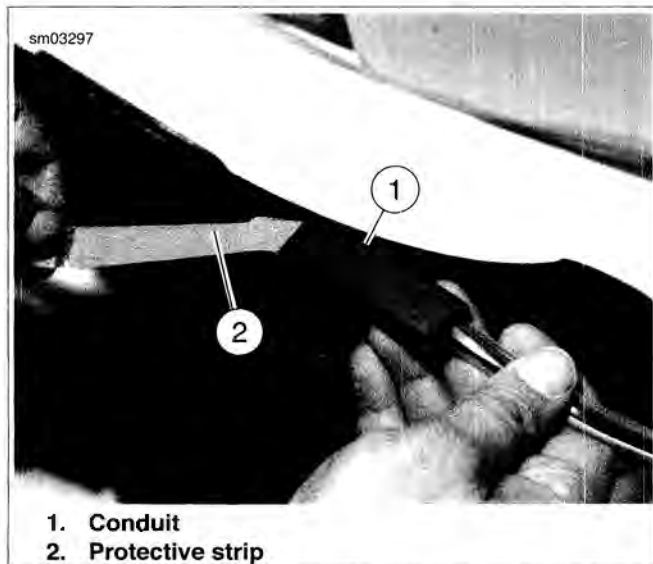

Figure 2-118. Removing Protective Strip From Conduit
7. See Figure 2-118. Remove protective strip covering adhesive on conduit.